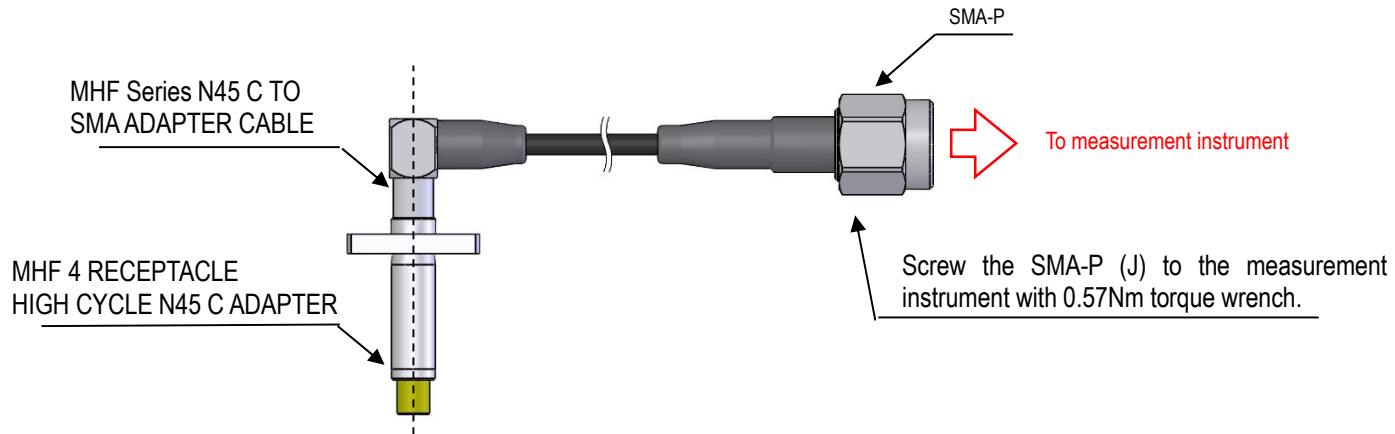

Figure 6 Connection method
After assembled the high cycle adapter and MHF Series N45 C TO SMA ADAPTER CABLE as shown in figure 6, screw the SMA-P (J) to the measurement instrument with 0.57Nm torque wrench.